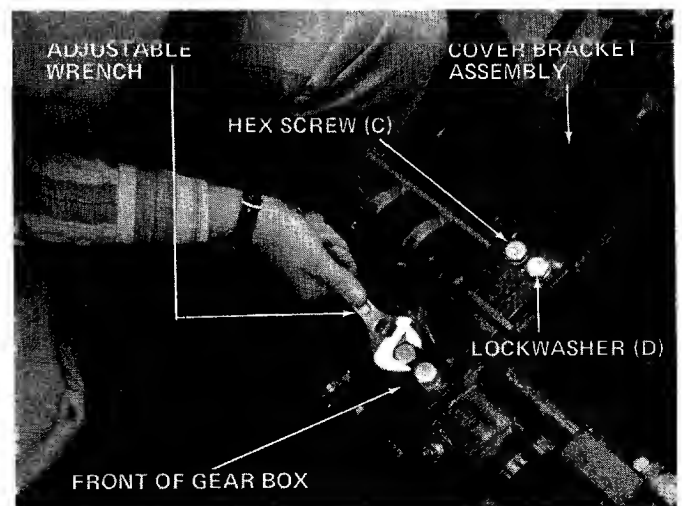

FIGURE 7
7. Install cover bracket assembly to gear box (as shown in figure 7) using four hex screws 1/2-13 x 1-1/4" (C) and 1/2" lockwashers (D). An adjustable wrench is required.